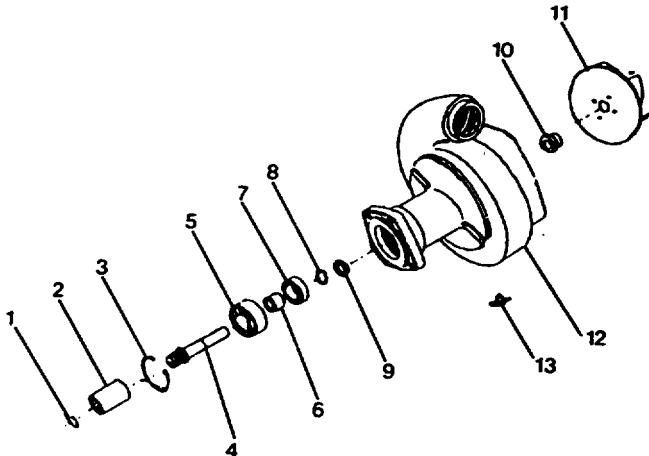
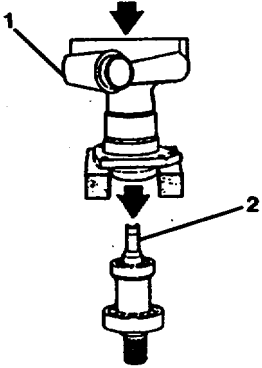
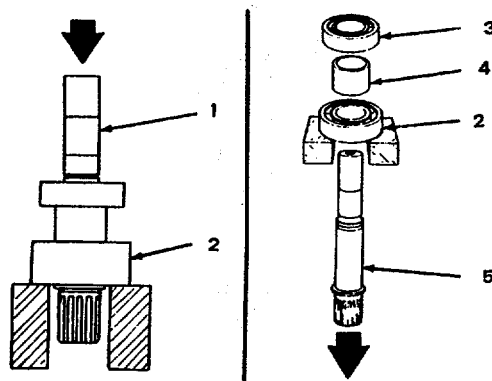

FIGURE 3-1. Engine Cooling System Pump.
FIGURE 3-2. Shaft Removal From Pump.
FIGURE 3-3. Shaft Removal.
- a. Install mechanical puller on centrifugal pump impeller (11, FIG. 3-1). Remove impeller (11).
- b. Remove retaining ring (3) from groove located in drive port of pump housing (12).
- c. Support water pump housing (12) in arbor press with drive port of housing down.
- d. Using arbor press (1, FIG. 3-2), apply pressure to impeller end of straight shaft (2) to remove shaft from water pump housing (12, FIG. 3-1)
- e. Remove seal (10).
- f. Remove retaining ring (1).
- g. Remove rigid shaft coupling (2).
- h. Remove valve seat (9).
- i. Remove retaining ring (8).
- j. Using a hydraulic press (1, FIG. 3-3), support the large annular ball bearing (2) as shown.
- k. Remove the small annular ball bearing (3), sleeve spacer (4) and the large annular ball bearing (2) from the shaft (5).
- l. Remove drain cock (13, FIG. 3-1).
- a. Inspect centrifugal pump impeller (11, FIG. 3-1).
- (1) Inspect impeller for nicks, cracks and obvious damage.
- (2) Check for wear marks on outside diameter of impeller and on impeller vane edges.
- (3) Check center (shaft) bore of impeller for wear.
- (4) Measure inside diameter of impeller bore. Verify diameter is within specifications (Table 3-2).
- (5) Replace impeller, if defective.
- b. Inspect straight shaft (4).
- a. Use a hydraulic press to support the shaft (4, FIG. 3-1).
- b. Push the large bearing (5) with a mandrel on the shaft (4) until it touches the shaft step.
- c. Install sleeve spacer (6) on the shaft.
- d. Push the small bearing (7) with a mandrel on the shaft until it touches the sleeve spacer.
- e. Install the retaining ring (8).
- f. Support the water pump housing (12) in an arbor press with the impeller side down.
- i. Install retaining ring (3, FIG. 3-1).